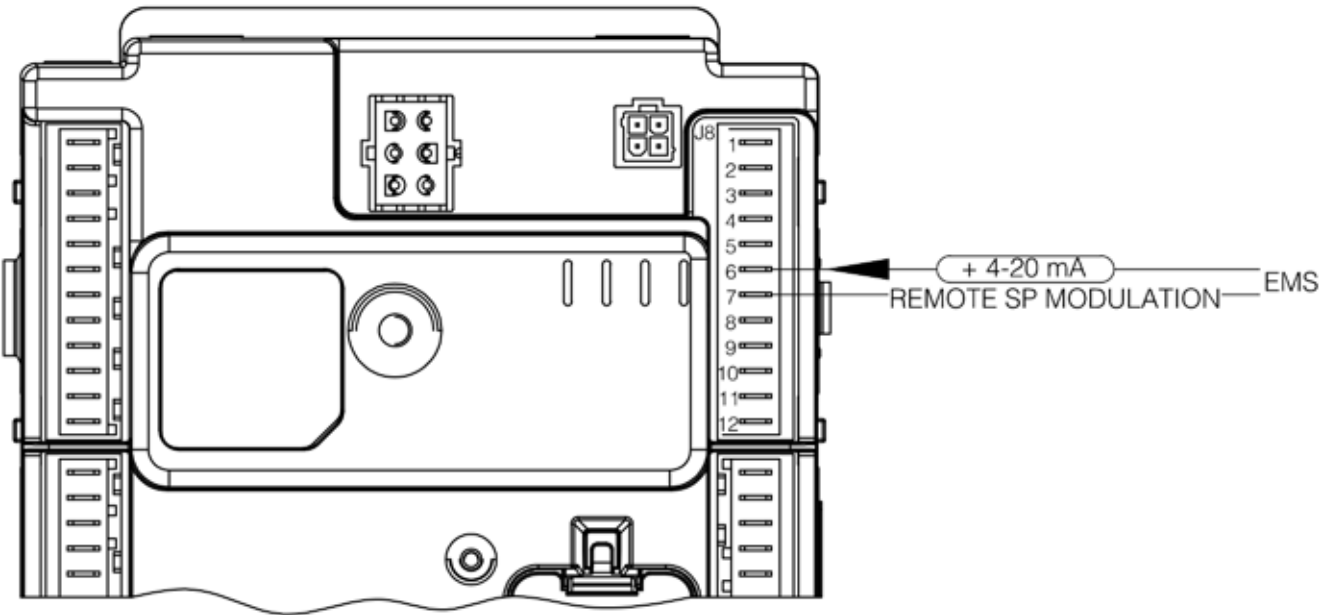

Figure 10.4: 4-20 mA EMS Field Wiring
- g. 4-20 mA Energy Management System (EMS) - A 4-20 mA EMS may be wired to the controller (Figure 10.4). Manufacturer part numbers for contacts (field supplied) required to install wire leads in JST housing are: